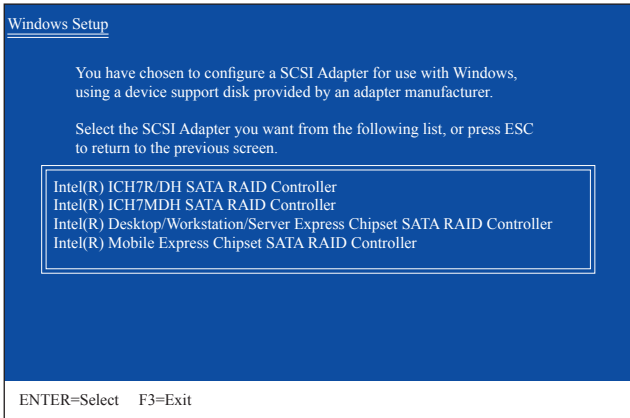

Figure 1
Insert the floppy disk containing the SATA RAID/AHCI driver and press <Enter>. Then a controller menu similar to that in Figure 1 will appear. Select **Intel(R) Desktop/Workstation/Server Express Chipset SATA RAID Controller** and press <Enter>. For AHCI mode, use the up arrow key on the keyboard to scroll to the **Intel(R) Desktop/Workstation/Server Express Chipset SATA AHCI Controller** item and press <Enter>.